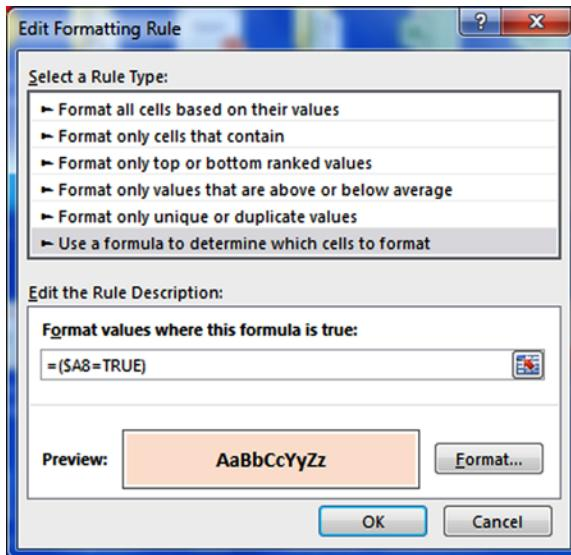

Figure 10-9. The Edit Formatting Rule dialog box
4. A8 will appear as the absolute reference \$A\$8. However, you do not want every row to test only this cell. Rather, you want each row to test against the cell for the row. So press F4 twice to toggle through the absolute reference options until you reach \$A8. Then finish the formula by typing =TRUE). Figure 10-9 shows the correct formula.